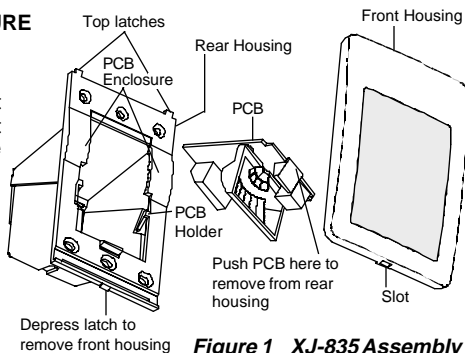

Figure 1 XJ-835 Assembly
2. Remove the printed circuit board (PCB) by pushing the board in and down (at the same time). When the board is clear of the enclosure, gently pull it from the housing. Refer to Figure 1.